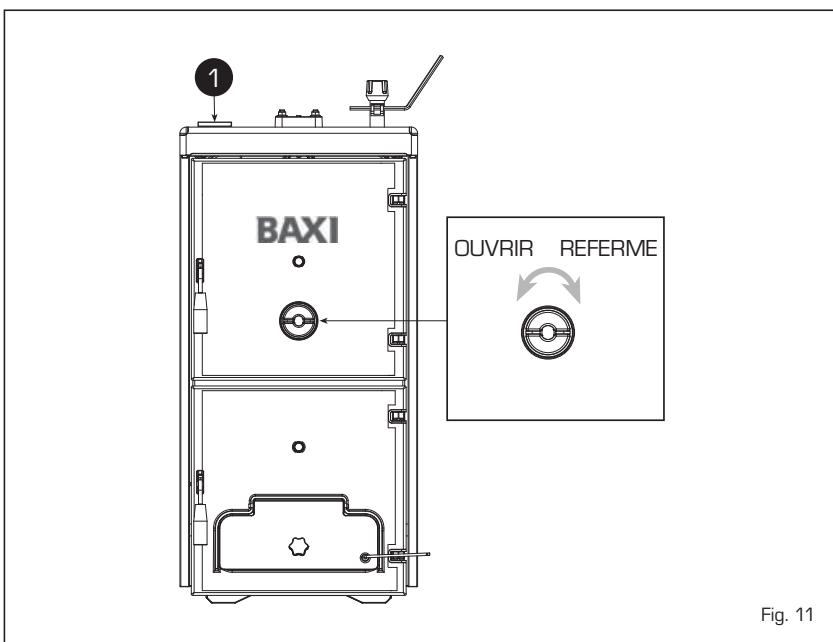

Fig. 11
5.2 THERMOMÈTRE CHAUDIÈRE [fig. 11]
5.3 RÉGULATION D'AIR [fig. 11]